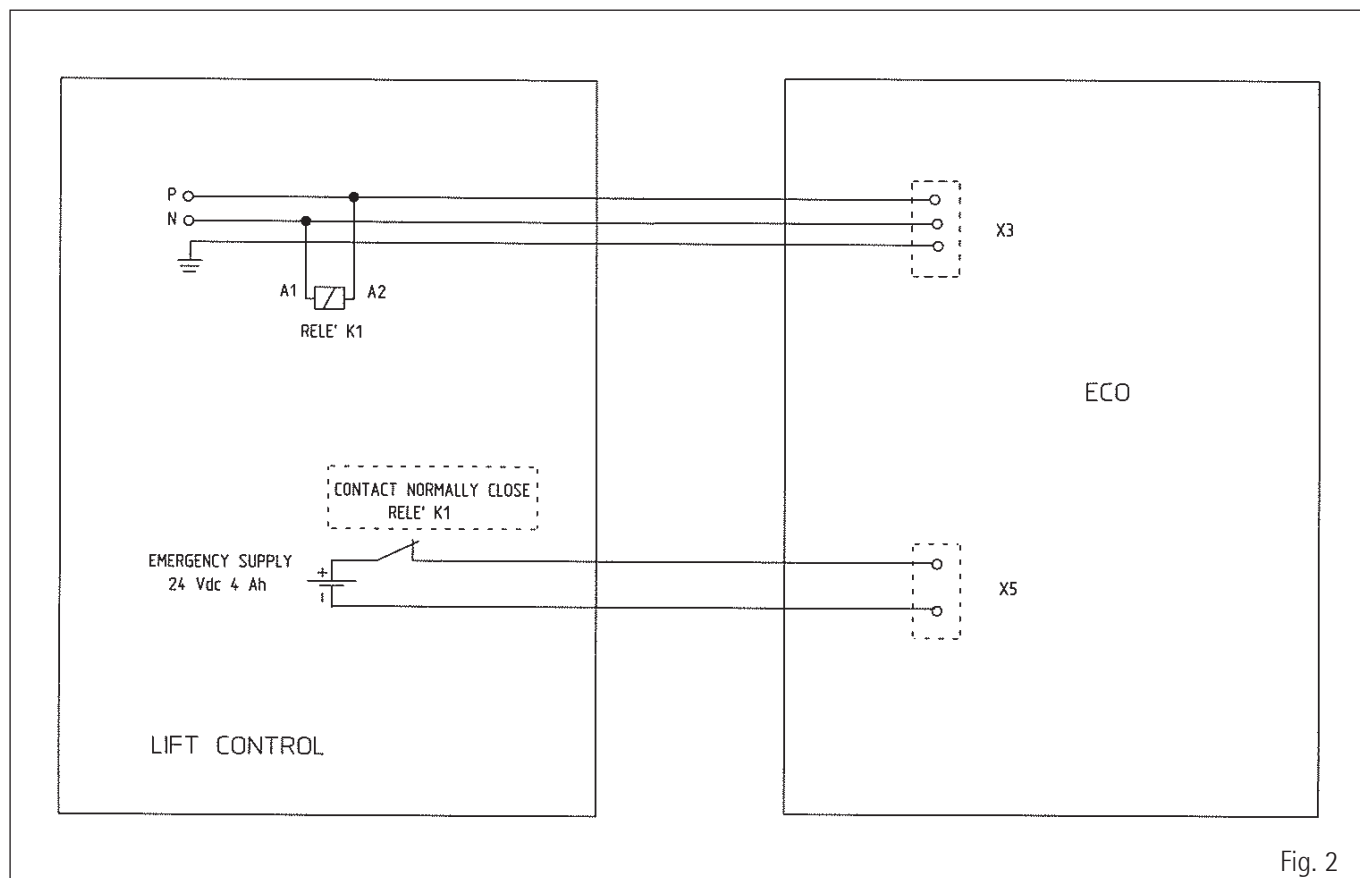

Fig. 2
1. If mains power is removed, to ensure correct operation of the emergency procedure in manual mode, we recommend supplying the ECO+ drive with battery power (24 Vdc 4 Ah) via connector X5: the battery power must be supplied immediately after mains power is removed (the ECO+ drive must not be switched off). This way it will be possible to align the elevator cabin with the desired floor by means of a manual operation: the doors can only be opened manually: Fig.2 recommended wiring diagram.